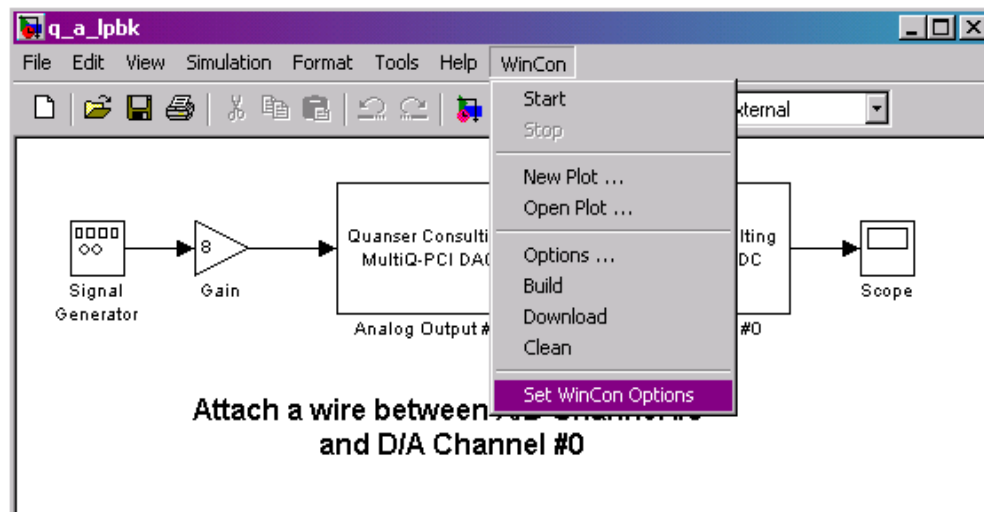

Figure 83 Setting the default WinCon options
3. You must first ensure that all your options are set correctly according to the operating system under which the real-time code is going to run. The WinCon Server installer automatically configures the examples so this step is not strictly necessary. (Simulink is also configured to such that the default options are appropriate for WinCon). However, this step is required for pre-existing models which may not be configured for WinCon. To configure the model for WinCon, select *WinCon | Set WinCon Options* from the Simulink menu bar, as seen in Figure 83 below.